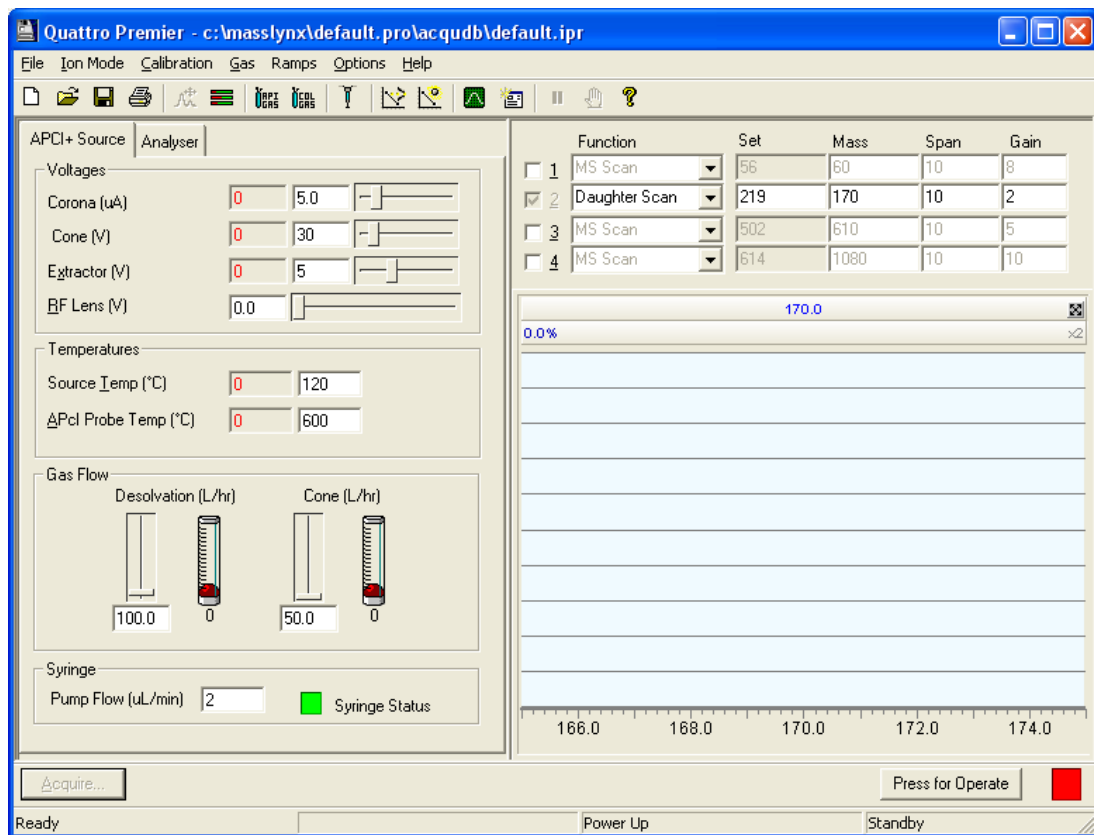

Figure 3-4 Tune Window APcI+ Source Page
4. In the MassLynx Tune window, select Ion Mode > APcI+ to display the APcI+ Source page (Figure 3-4).